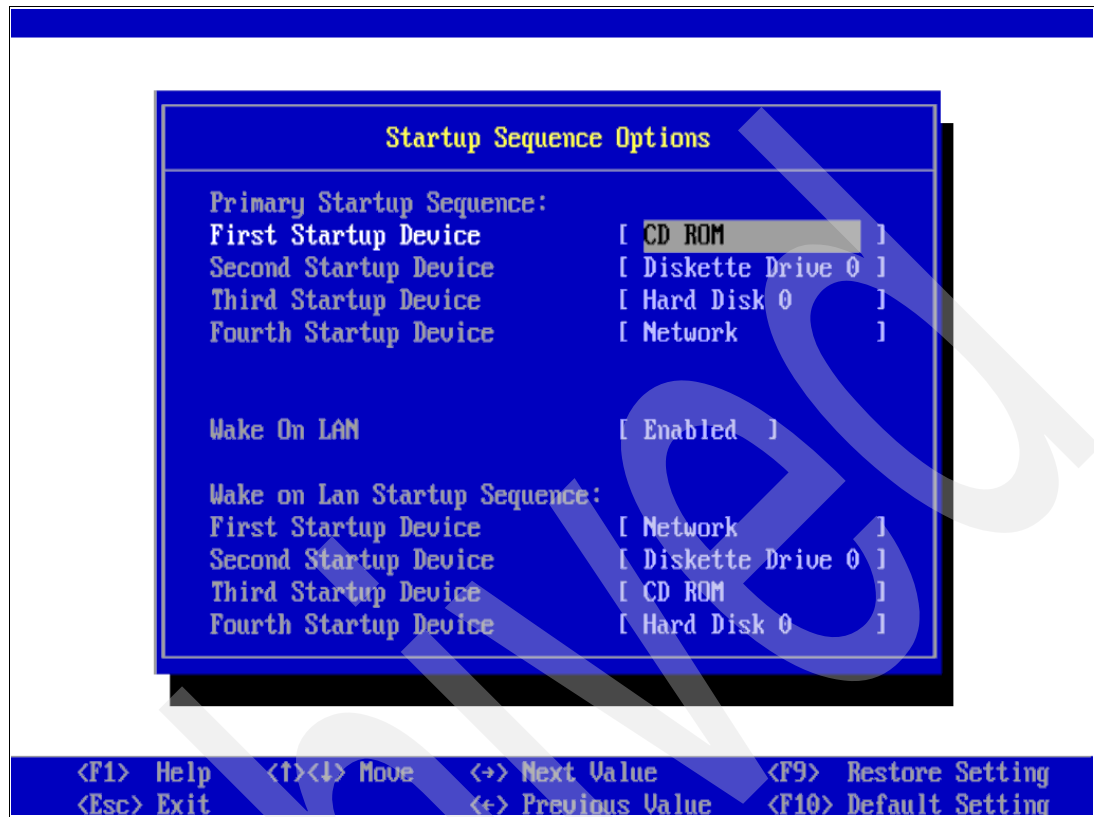

Figure 27-9 Startup Sequence Options
3. From the main Configuration/Setup Utility window, select **Start Options**. Verify the Startup Sequence Option is configured, as shown in Figure 27-9.
4. Depending on which PCI slot your first HBA adapter is placed in, select the appropriate boot priority for PCI devices. From the Start Options menu, select the PCI Device Boot Priority; for our example, the first HBA card is in slot 1, as shown in Figure 27-9.